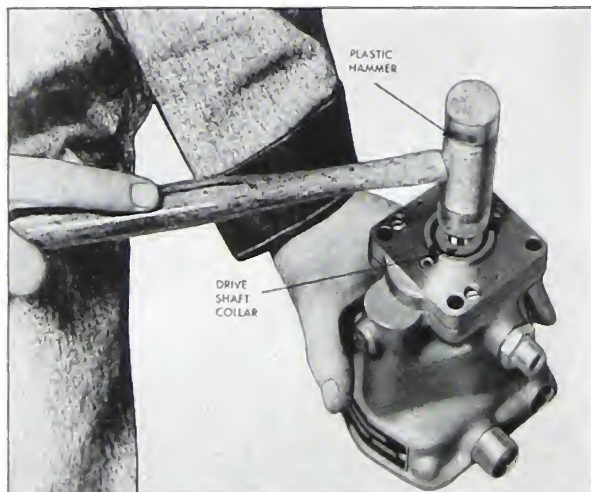

Fig. 5-57. Removing drive shaft collar
13. Strike drive shaft with plastic hammer to remove drive shaft collar. Fig. 5-57. Remove drive shaft and ballhead from case.